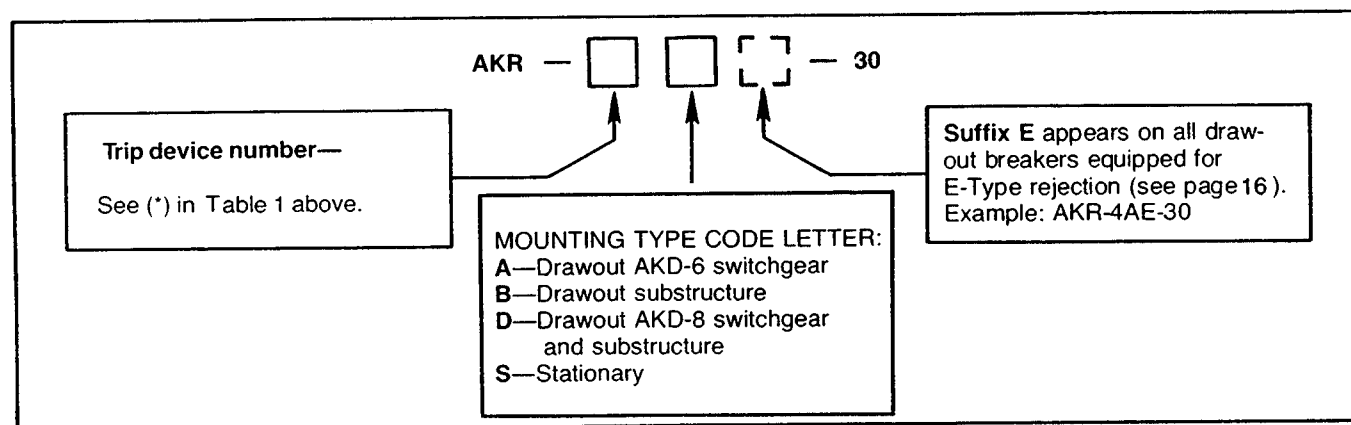

Fig. 1. AKR breaker type designation
As listed in Table 1, the 800 thru 2000A frame AKR breakers are furnished in four different mounting types—drawout A, drawout B, drawout D, and stationary (S). Each of these is described in the text. A breaker's type is indicated on its nameplate; the designation system is explained in Fig. 1.